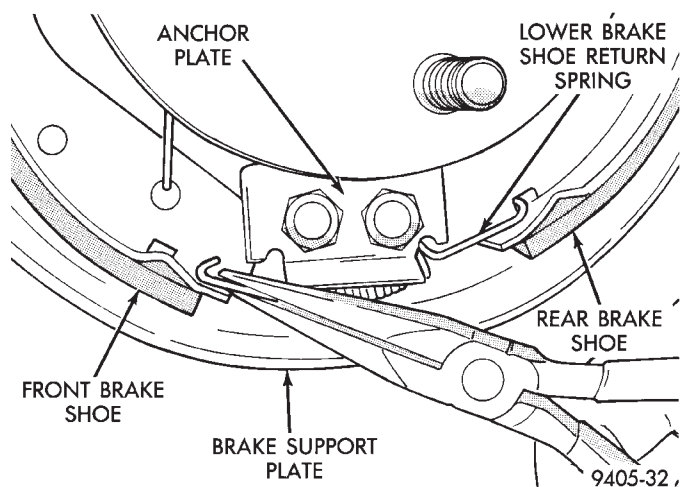

Fig. 62 Brake Shoe Lower Return Spring
- (6) Remove the brake shoe lower return spring (Fig. 62).
(8) Install the brake shoe lower return spring (Fig. 62).